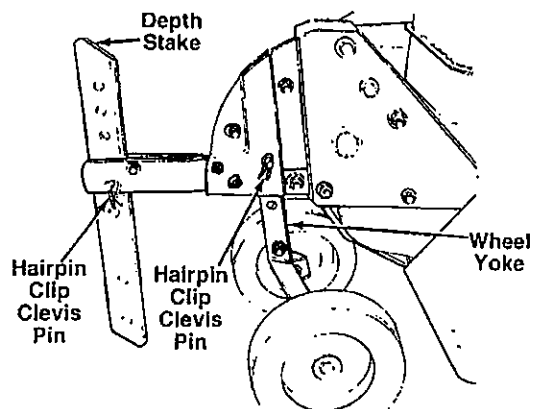

FIGURE 7
The tiller is shipped with the wheels adjusted such that the unit sits level. During tilling as the tines enter the ground and the front of the tiller lowers, the wheels must be raised to level the unit, which is essential for proper engine operation. This adjustment is made by removing the clevis pin and hairpin clip from wheel yoke, raising the wheels to the desired height, and replacing the clevis pin and hairpin clip. See figure 7.
2. **Depth Stake Adjustment:** The depth stake acts as a brake for the tiller and controls the depth and speed at which the machine will operate. Remove the clevis pin and hairpin clip to raise or lower depth stake. See figure 7.